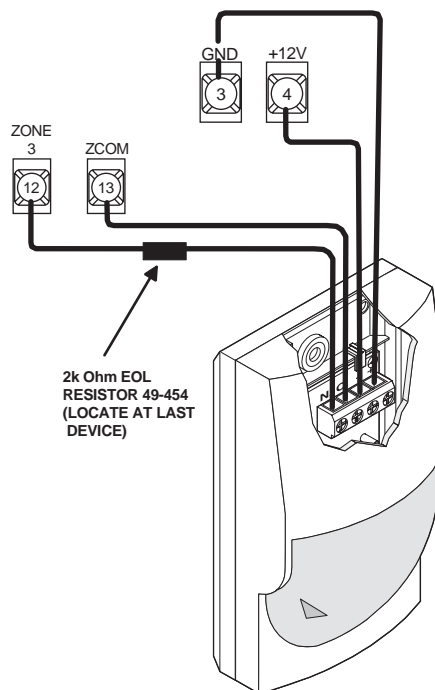

Figure 11. Connecting a PIR Motion Detector
Figure 11 shows the typical wiring for Optex model RX-040 (PI) PIR motion detectors. The minimum available panel voltage for hardwired PIR motion detectors is 8.5 VDC (9.1 VDC for UL Listed systems).